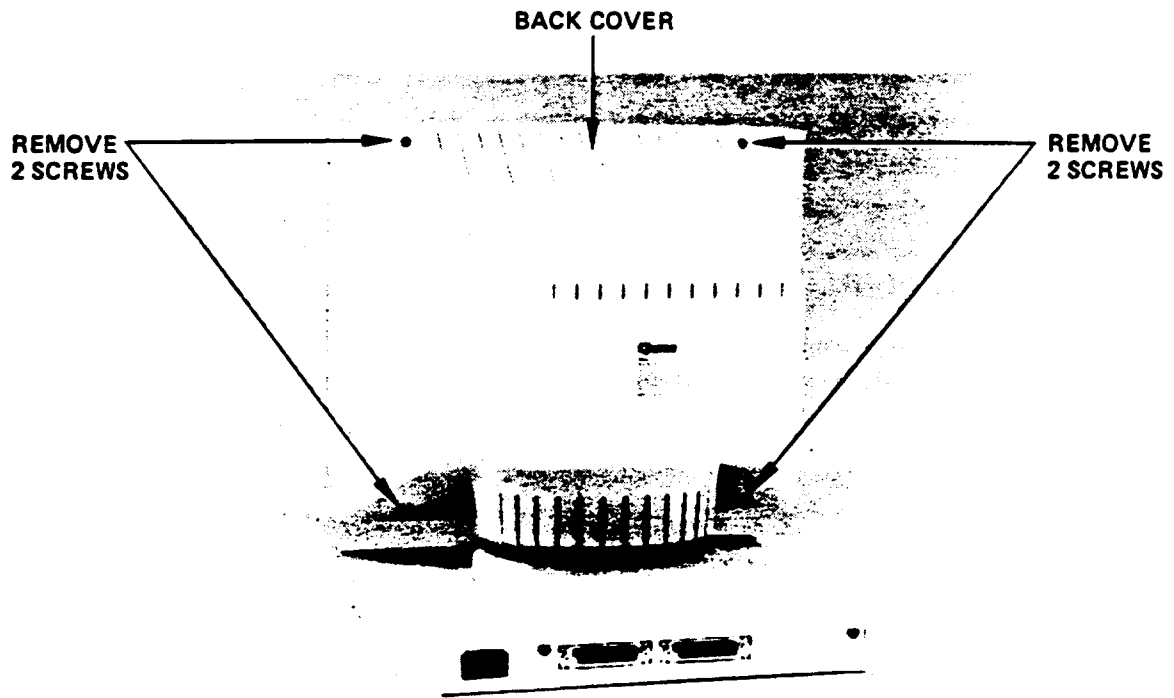

Figure 2-2. Removal of Back Cover
1. Remove the four screws securing the Back Cover to the Bezel as shown in Figure 2-2.